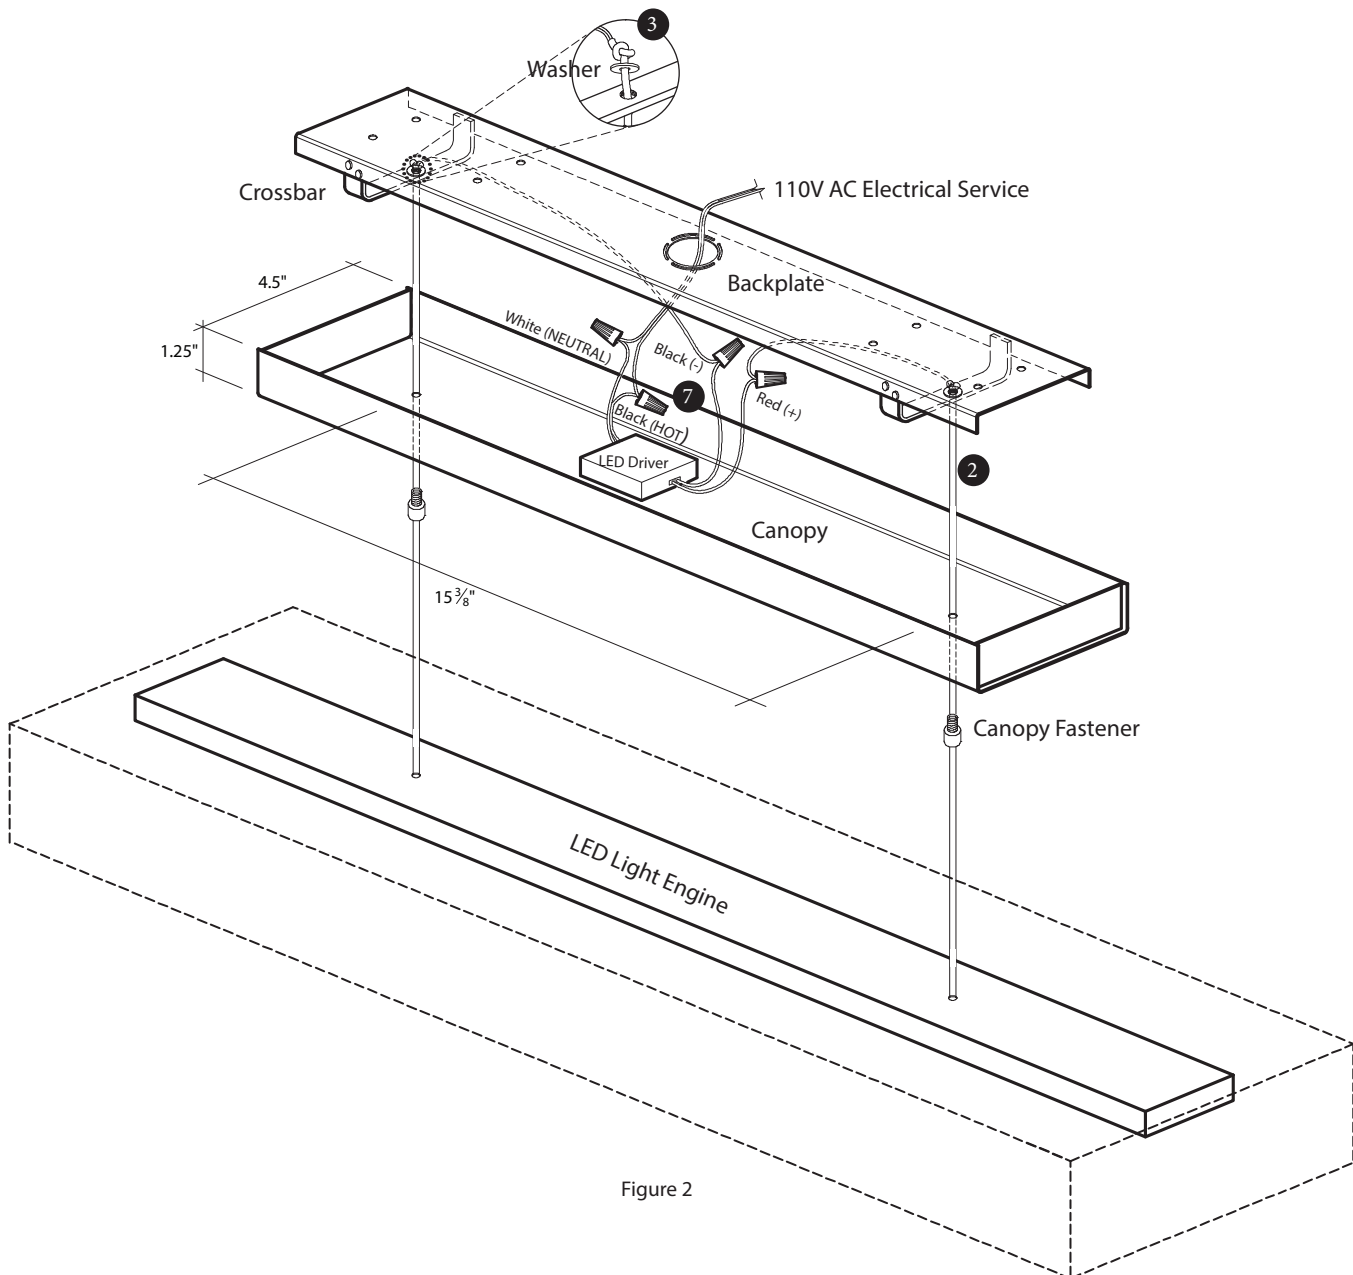

Figure 2
- ⑦ Make electrical connections as shown in figure 2 using the supplied wire nuts.